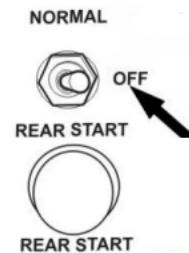

FIGURE 1
2. Open the engine compartment door. Set the rear start selector switch to the OFF position (FIGURE 1).